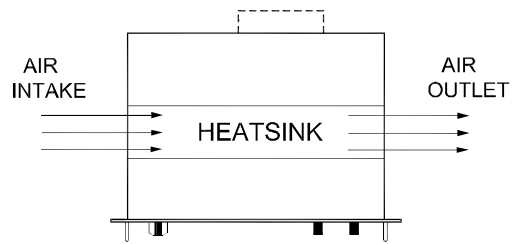

fig. 4 - 13
- The internal construction of the power supply is such that no dust will reach the sensitive control circuitry, only the heat sink in a tunnel will be cooled by forced air, see fig. 4 - 13